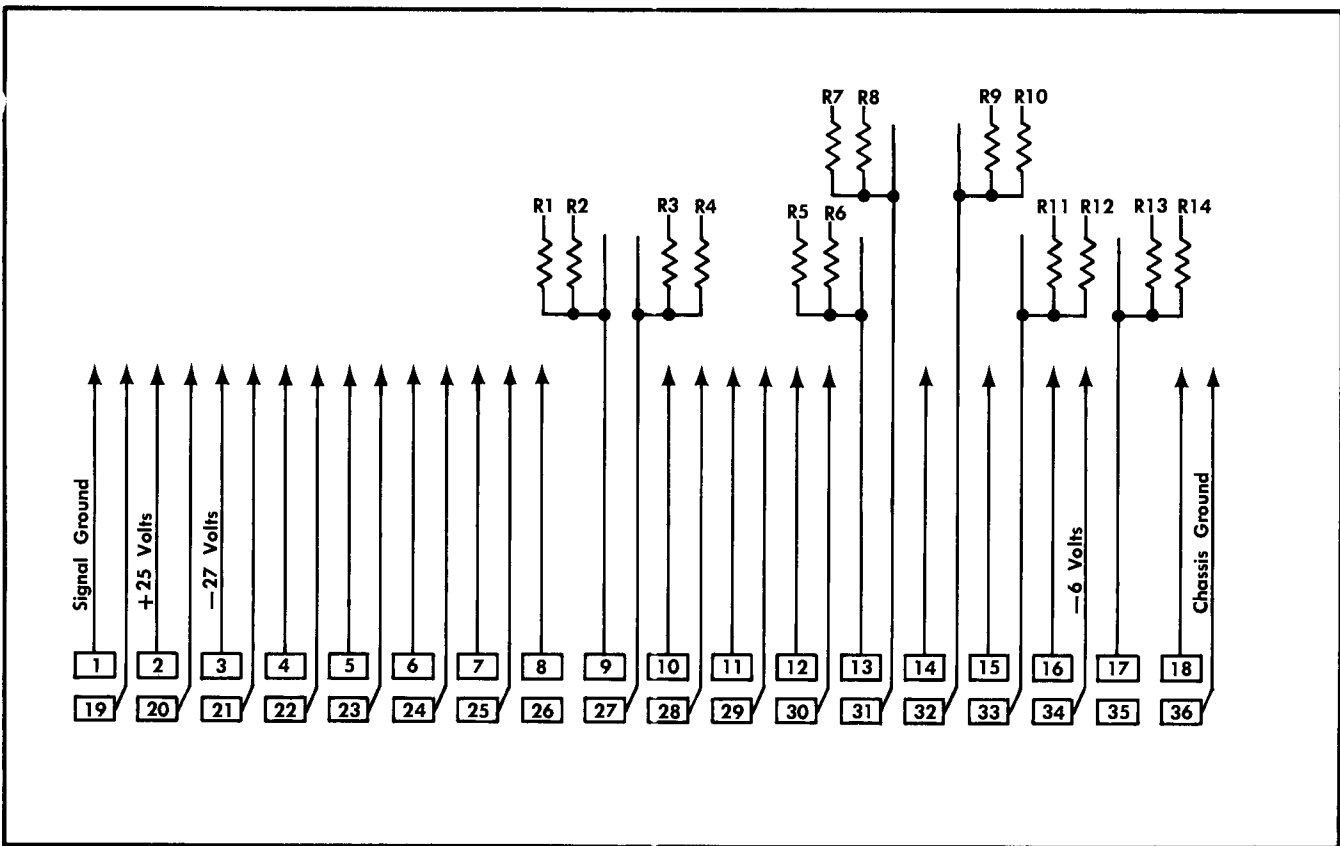

Fig. 7-2. Schematic diagram for remote program checker (item 19). Connect wires to all terminals except #26 and #35. See Table 7-1 for resistor values.
18. Four shorting straps, approximately 8-inches long, constructed of insulated stranded copper wire and alligator clips, for use with item 19.
19. Special remote program checker, constructed according to schematic diagram in Fig. 7-2. Provides access to REMOTE PROGRAM connector terminals and includes minimum, intermediate, and maximum resistance values for remote program analog checks. Made of 36-terminal re-